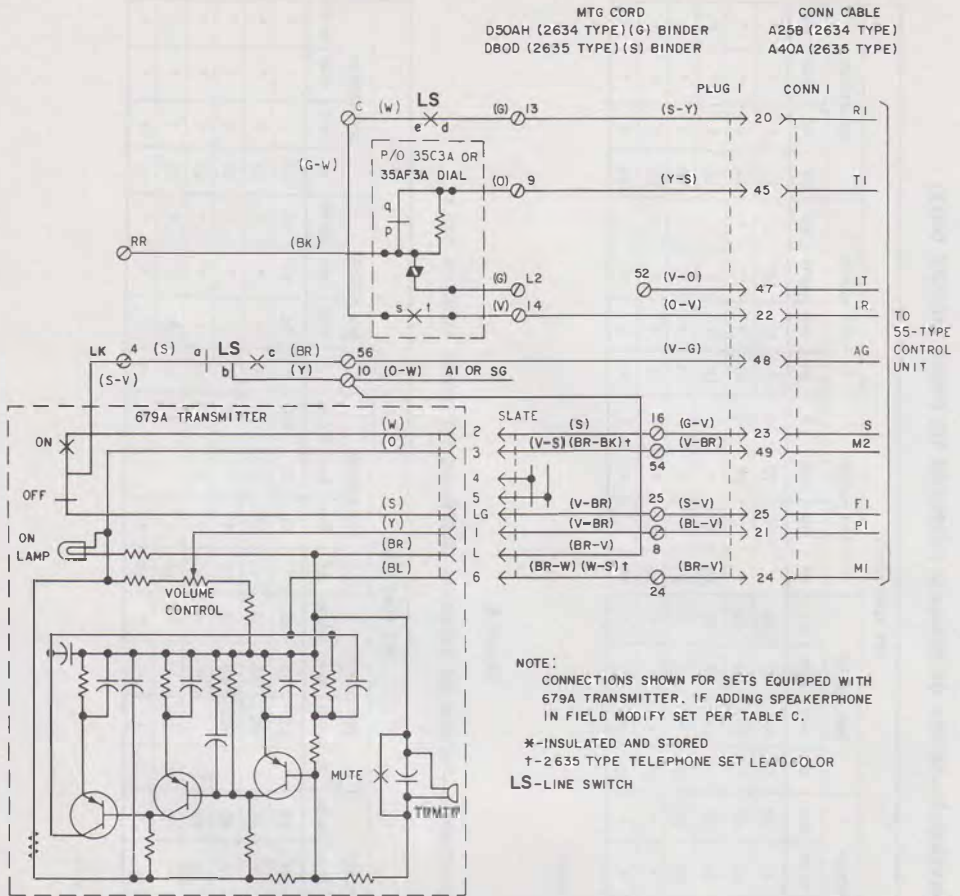

Fig. 4—3-Type Speakerphone Connections
2.08 For 3-type speakerphone operation, a 679A transmitter may be installed in 3rd (2634DA or DAM) or 5th (2635DA or DAM) module. For necessary wiring changes and connections, see Table C and Fig. 4.
1. Mounting cord conductors from (G) 2634-type or (S) 2635-type binder.
2. Connect the slate plug from the 3rd or 5th module to the 679A transmitter (Fig. 4). All other plugs in the module are insulated and stored.